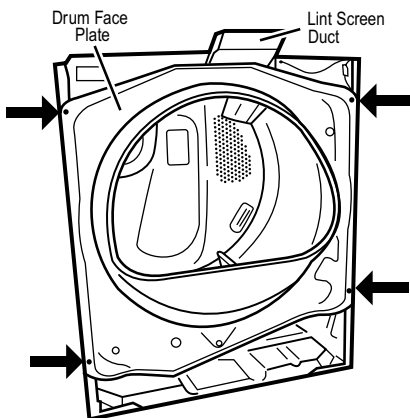

Figure 14. Remove the front bulkhead.
9. Remove the front bulkhead by loosening the upper two screws and removing the lower two screws. See Figure 14.